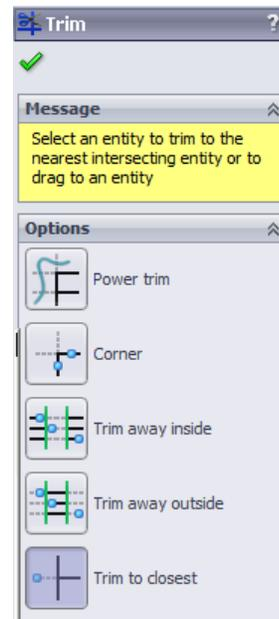

Figure 3-7 The Trim PropertyManager
19. Choose the **Trim Entities** tool from the **Sketch CommandManager**; the **Trim PropertyManager** is displayed on the left of the drawing area, refer to Figure 3-7.